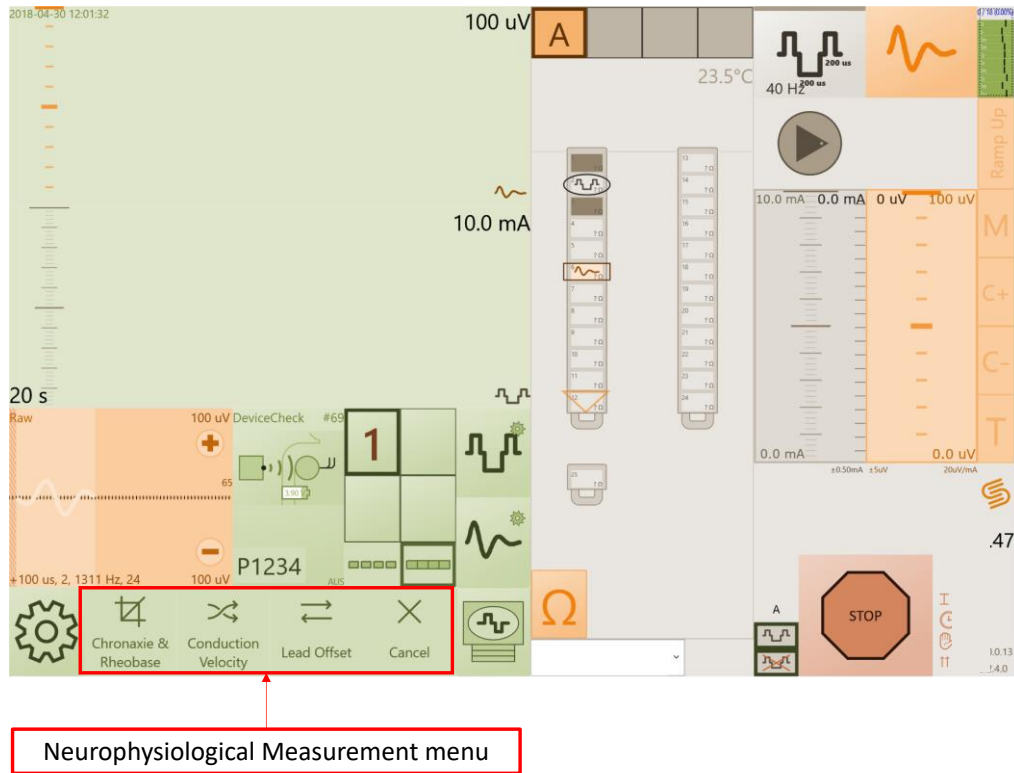

Figure 7.11 Location of controls to initiate neurophysiological measurements.
1. Touch the *CLS* icon , then touch the *More...* field and select *Show Neurophysiological Measurements*. The neurophysiological measurement menu will appear adjacent to the navigation menu icon (Figure 7.11).